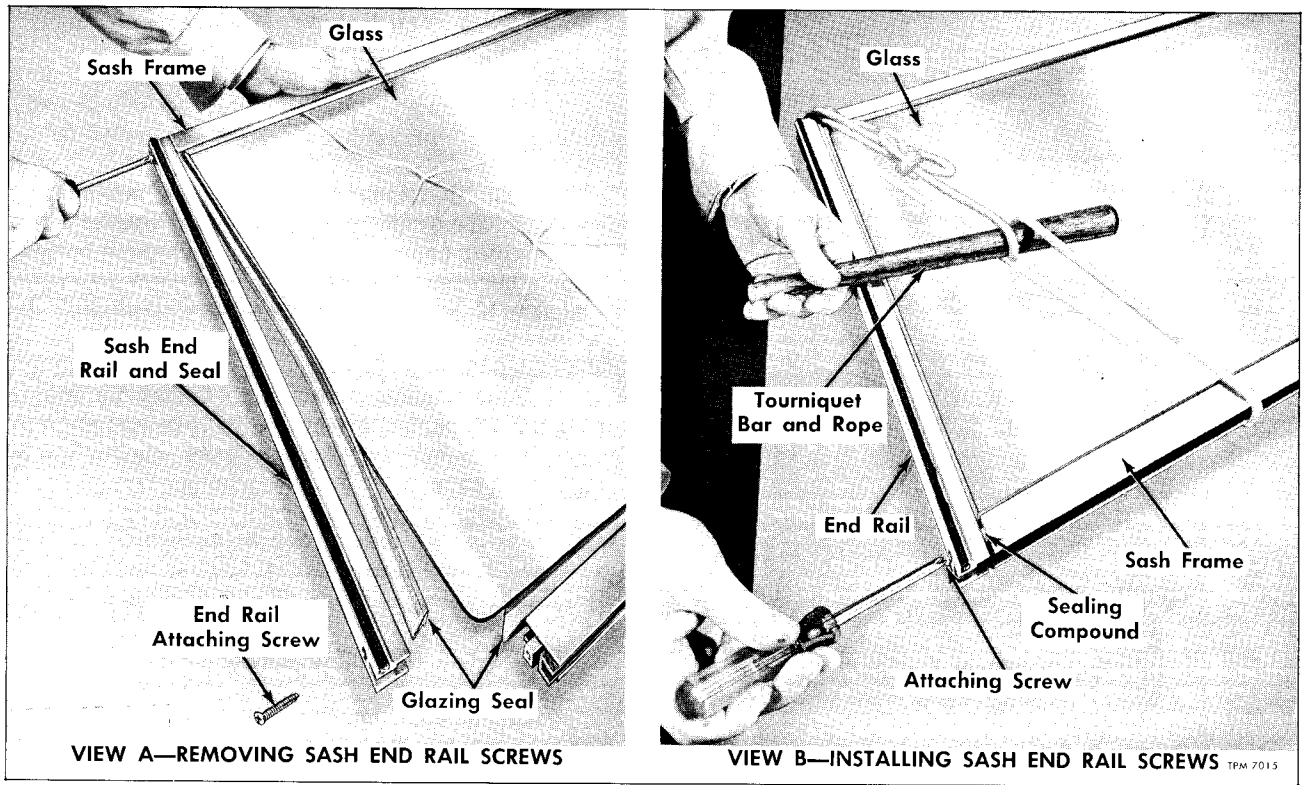

Figure 10—Replacing Sliding Section Glass
4. To disassemble sash and glass sections remove screw (View A, fig. 10) at upper and lower end of section vertical-slanting end rail. Remove end rail, then carefully remove broken glass and glazing rubber from sash.
3. Using a strong cord as a tourniquet to press sides of frame into position as shown in View B, figure 10, install vertical-slanting end rail to sash with attaching screws.